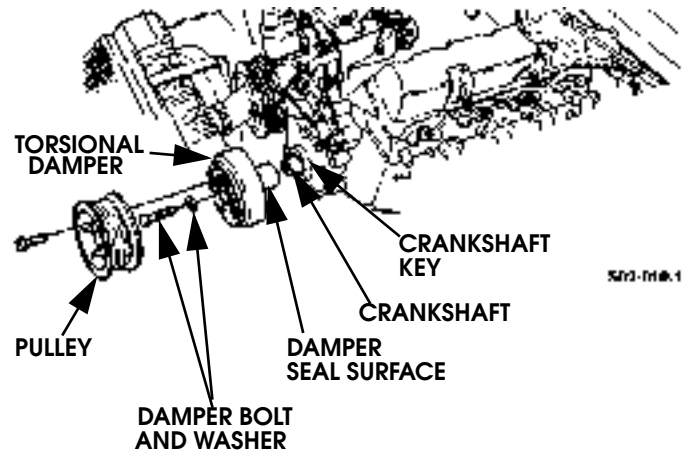

Figure 2-17: Torsional Damper and Crankshaft Pulley Mounting
2. Remove damper bolt and washer (Figure 2-17).
13. Remove torsional damper attaching bolt and washer (Figure 2-17).